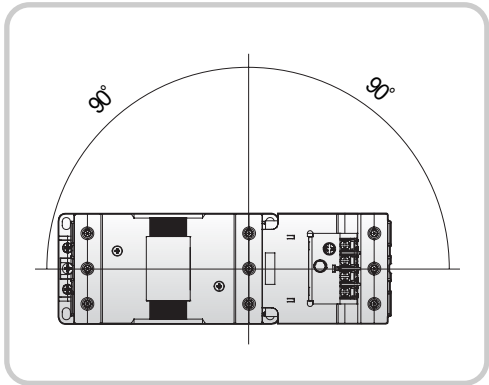

Fig. 13. Lateral installation
- a) Please install with being rotated 90 degrees counterclockwise from standard installation direction as seen in figure 13. If you' re only using the magnetic contactor, any direction is okay.